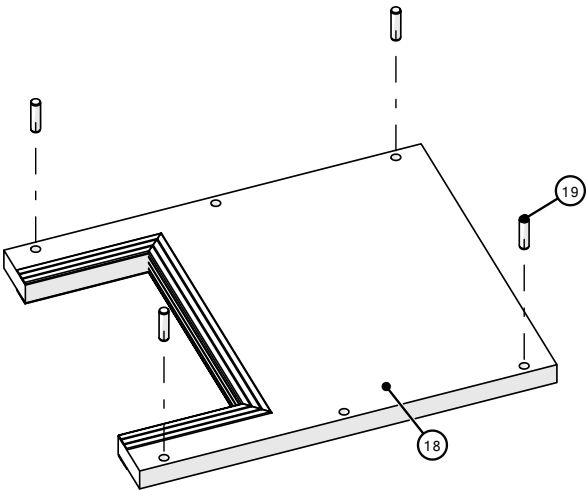

Figure 14
- 20.** Insert wooden dowels into the holes of the top cover of HAT integration box, (Figure 14).